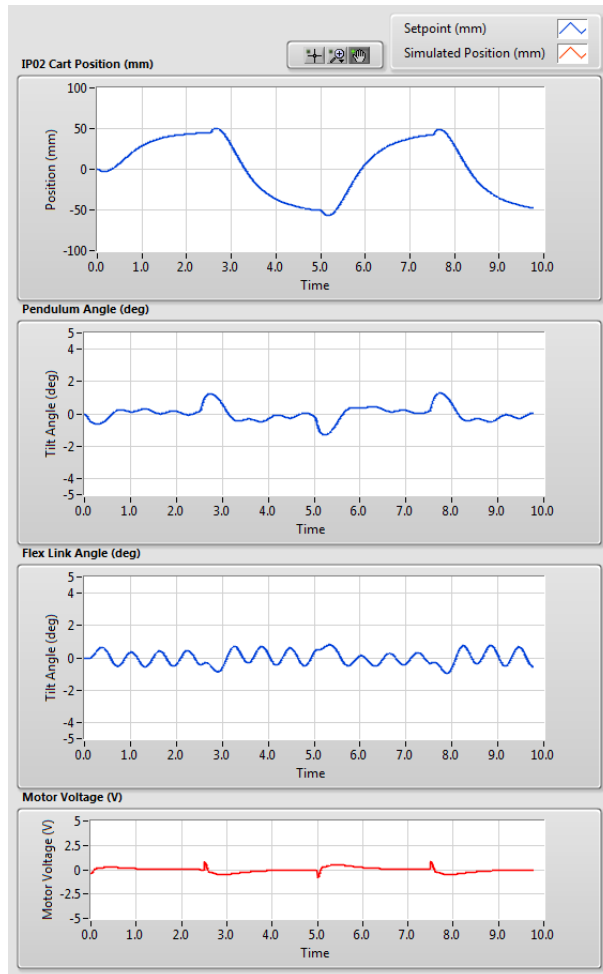

Figure 3.2: Simulated closed-loop response.
4. Run the VI. The scopes should be displaying responses similar to Figure 3.2.
As shown by the response in Figure 3.2, the pendulums maintain their balanced positions despite the applied 50 mm cart position disturbance. Further analysis can be performed using the *Graph Palette*.